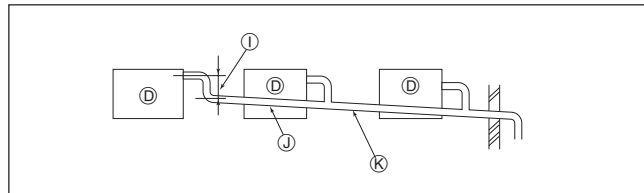

Fig. 5-3
5.3. Grouped piping (Fig. 5-3)
- ① Make it as large as possible
- ② Downward slope (1/100 or more)
- ③ O.D. $\phi 38$ mm, 1-1/2 inch PVC TUBE for grouped piping.